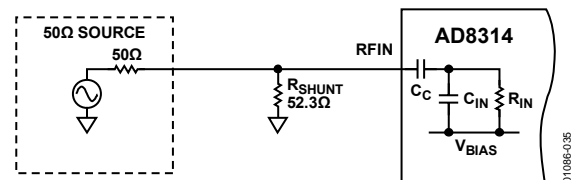
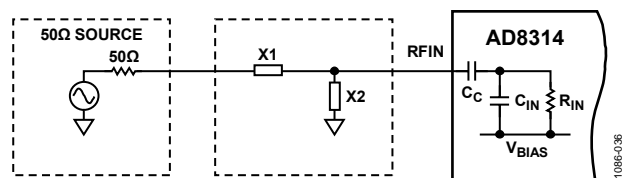
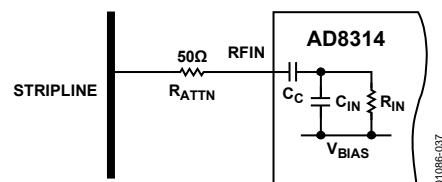

Figure 35. Broadband Resistive
Figure 36. Narrowband Reactive
Figure 37. Series Attenuation
The internal 5 pF coupling capacitor of the AD8314, along with the low frequency input impedance of 3 k $\Omega$ , gives a high-pass input corner frequency of approximately 16 MHz. This sets the minimum operating frequency. Figure 35 through Figure 37 show three options for input coupling. A broadband resistive match can be implemented by connecting a shunt resistor to ground at RFIN (see Figure 35). This 52.3  $\Omega$  resistor (other values can also be used to select different overall input impedances) combines with the input impedance of the AD8314 (3 k $\Omega$ ||2 pF) to give a broadband input impedance of 50  $\Omega$ . While the input resistance and capacitance ( $C_{IN}$  and  $R_{IN}$ ) varies by approximately  $\pm 20\%$  from device to device, the dominance of the external shunt resistor means that the variation in the overall input impedance is close to the tolerance of the external resistor.
A reactive match can also be implemented as shown in Figure 36. This is not recommended at low frequencies as device tolerances dramatically varies the quality of the match because of the large input resistance. For low frequencies, Figure 35 or Figure 37 is recommended.
In Figure 36, the matching components are drawn as general reactances. Depending on the frequency, the input impedance at that frequency, and the availability of standard value components, either a capacitor or an inductor is used. As in the previous case, the input impedance at a particular frequency is plotted on a Smith Chart and matching components are chosen (shunt or Series L, shunt or Series C) to move the impedance to the center of the chart. Table 5 gives standard component values for some popular frequencies. Matching components for other frequencies can be calculated using the input resistance and reactance data over frequency, which is given in Figure 12. Note that the reactance is plotted as though it appears in parallel with the input impedance (which it does because the reactance is primarily due to input capacitance).
Figure 37 shows a third method for coupling the input signal into the AD8314, applicable in applications where the input signal is larger than the input range of the log amp. A series resistor, connected to the RF source, combines with the input impedance of the AD8314 to resistively divide the input signal being applied to the input. This has the advantage of very little power being tapped off in RF power transmission applications.
**Table 5. X1 and X2 Recommended Components in Figure 36**